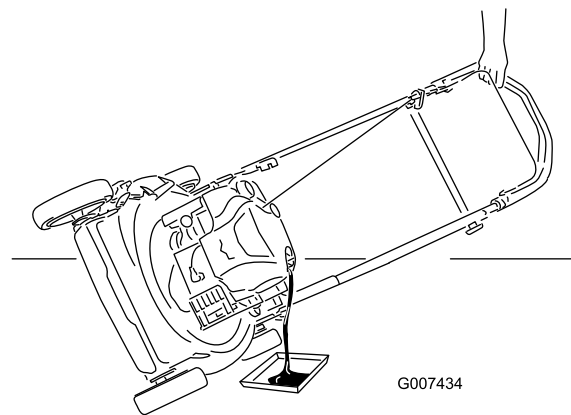

Figure 46
3. Tip the mower onto its side, with the air filter up, to drain the used oil out through the oil fill tube (Figure 46).